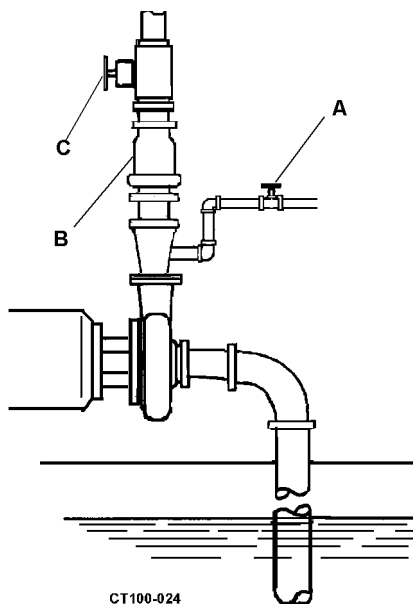

Figure 13 - Pump Above Supply
1. Close discharge valve (See Figure 13 item C) and open air vents.
2. Open valve in outside supply line (See Figure 13 item A) until liquid flows from vent valves.
NOTE: Use a type of check valve system (See Figure 13 item B) to keep supply line and pump casing flooded with liquid. Otherwise the pump must be primed before each operation.